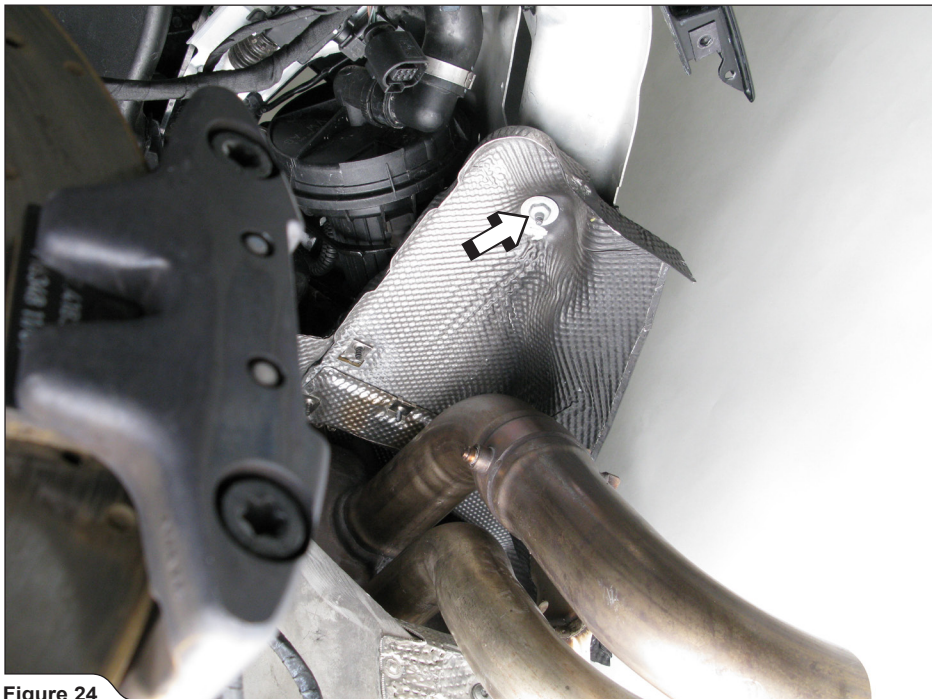

Figure 24
17. Unscrew the marked nuts and bolts on both sides of the vehicle and carefully remove the tail lights' heat shields (Figure 24, 25).